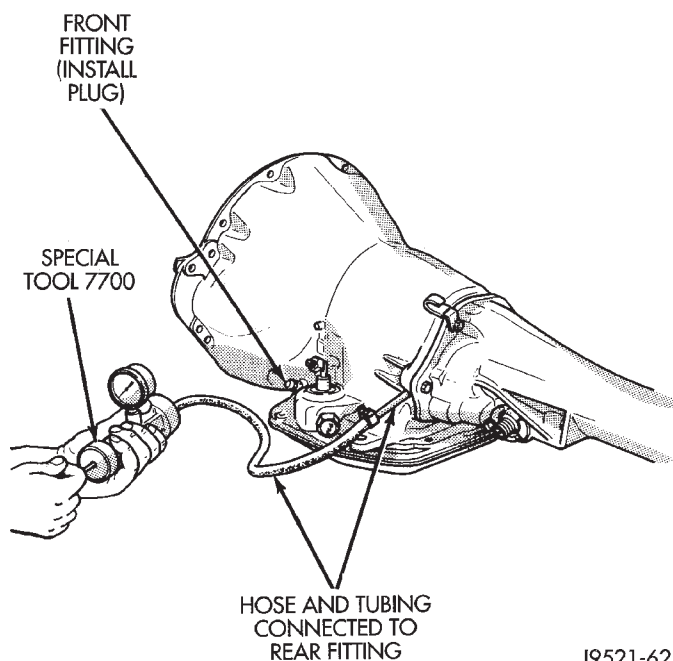

Fig. 23 Pressurizing Transmission With Tool 7700
(2) Close off remaining transmission openings with rubber plugs, or stoppers or similar devices. **Do not close off rear cooler line fitting. Hand operated air pump will be attached to this fitting.**
(3) Attach Air Pump 7700 to rear cooler line fitting. Connect a length of copper tube to fitting. Then attach pump hose to tube with hose clamp (Fig. 23).
(4) Apply a thick soapy water solution to suspected leak areas.